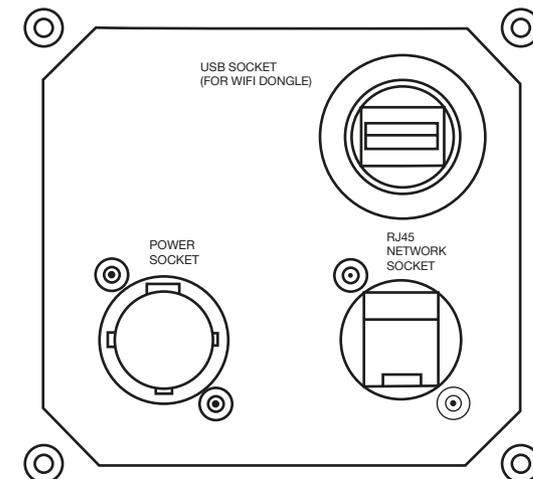

Figure 10: Magna back view detail on port cover plate and 4 inch spigot
- The printer power socket is on the back of the machine, at the right side (Figure 10).